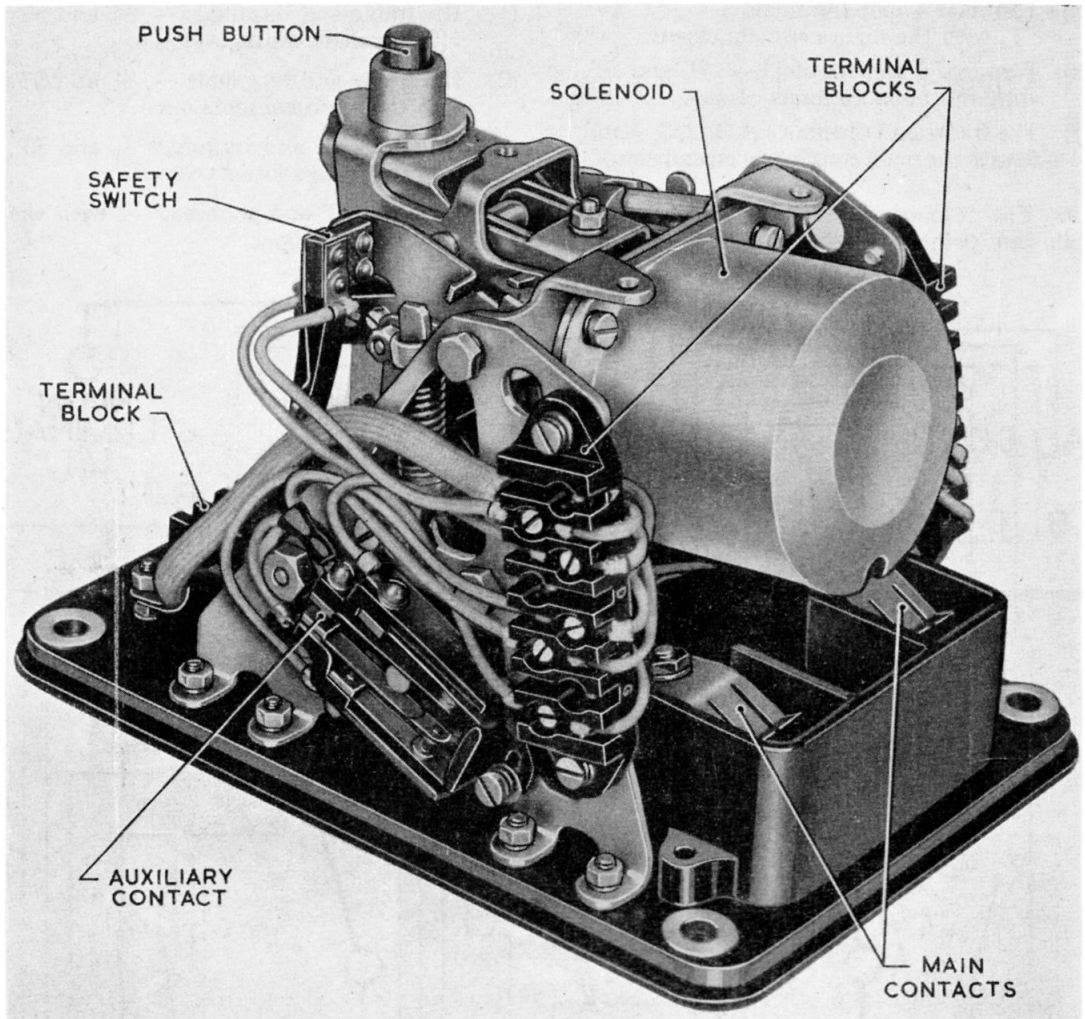

Fig. 2. General view of switch, without cover
7. The trip mechanism may be operated manually by pressing the push button (*fig. 2*), which protrudes through the casing of the switch, or electrically by means of the tripping solenoid which collapses the toggle mechanism and allows it to return to its original position under spring pressure.